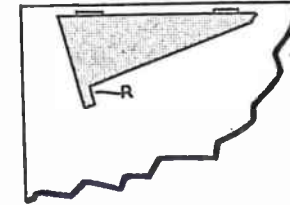

Fig. 7
The side flaps on the chair are made from 1/2in. plywood (ready veneered if desired), cut to the dimensions and shape as shown in Fig. 7. The two outer corners should be rounded off. Each flap is fixed to the chair with 1 1/2in. hinges (brass) and when raised in position for use, is held there by the stay (P) (Fig. 7). This is roughly 6ins. by 4ins. and is of 3/4in. plywood, or it could be of aluminium sheet. Two 3/4in. thin brass hinges hold the stay, which folds flat to the flap or leaf, when this latter is swung down out of use.